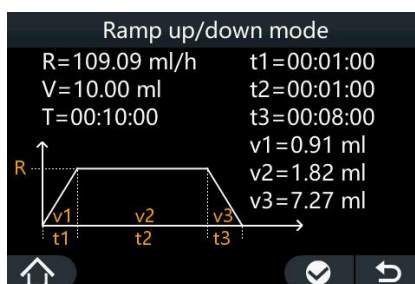

Figure 5-9
- Set the VTBI, total time, ramp up time, ramp down time. Then automatically jump to the interface as shown in Figure 5-9.